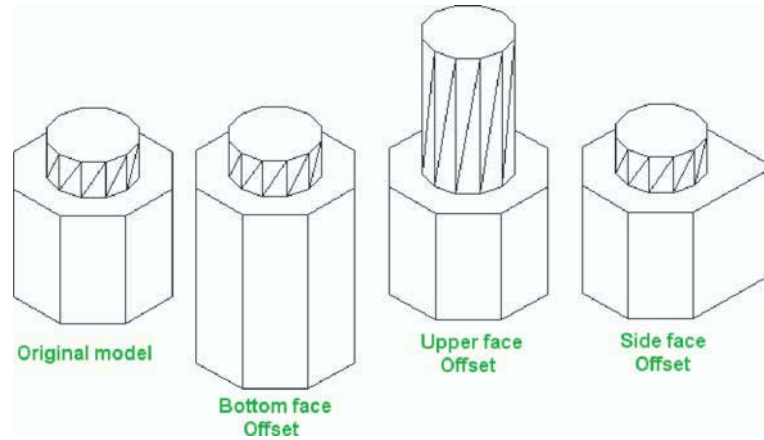

Fig. 18.9 Fourth example – **Offset Faces** tool
Fourth example – Offset Faces (Fig. 18.9)
1. Construct the 3D solid drawing shown in the left-hand drawing of Fig. 18.9 from a hexagonal extrusion and a cylinder which have been united using the **Union** tool.
The results are shown in Fig. 18.9.